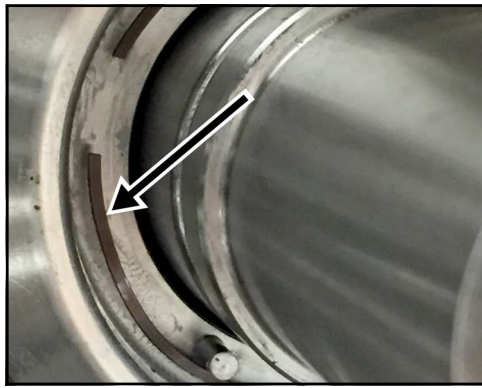

Figure 50 - Remove seal wave spring
4. Remove and inspect the seal wave spring on each shaft as shown in Figure 50.